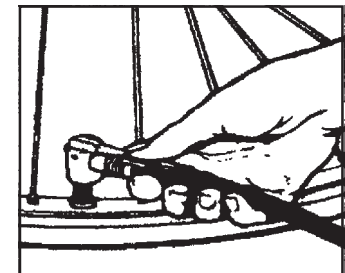

Fig. 2
2. Use thumb to close Quick Connector, ensuring that the thumb latch is as far down as possible (Fig. 2).